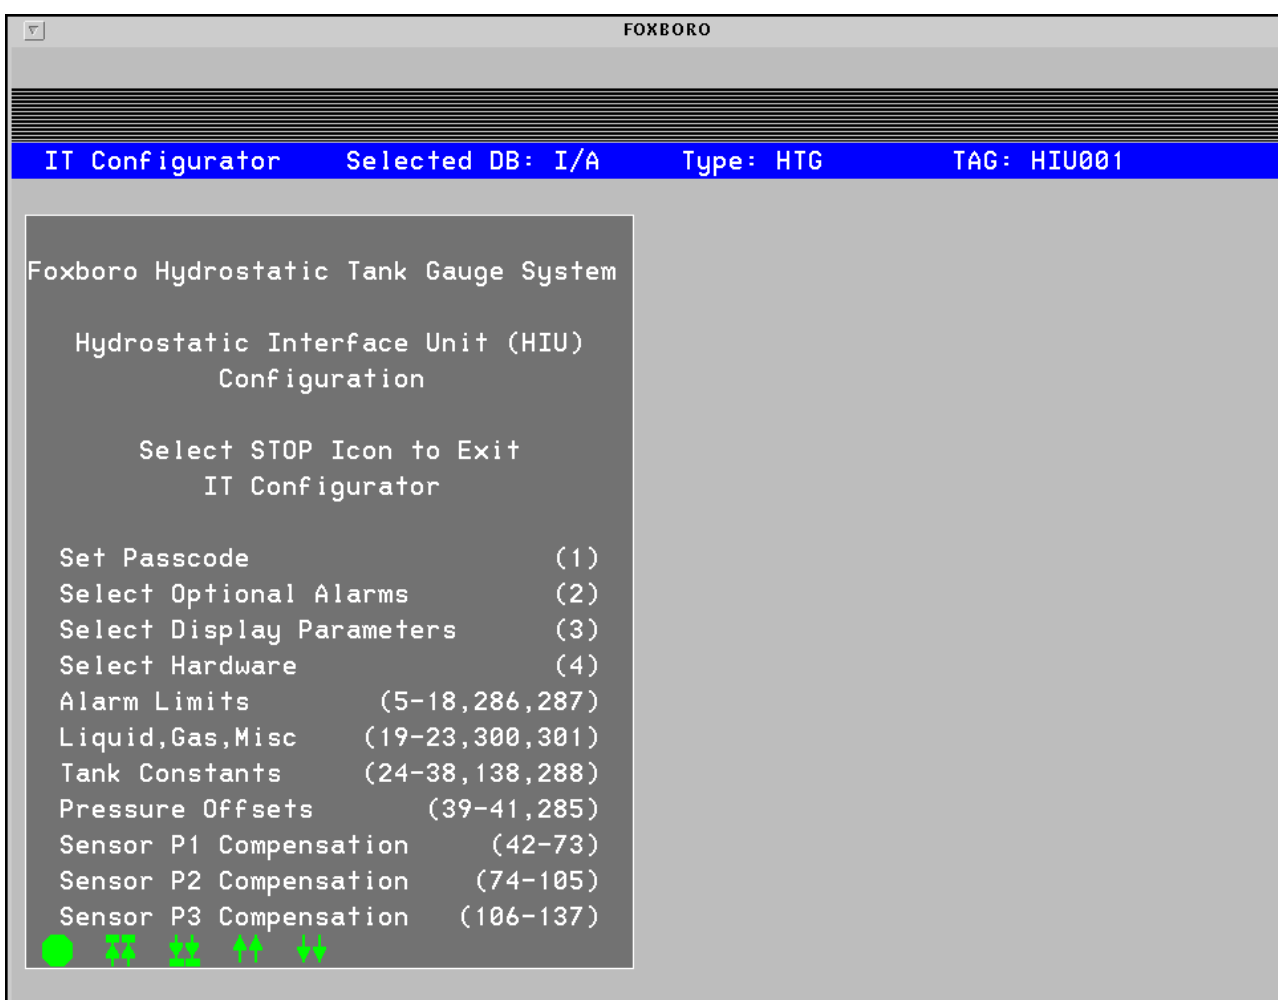

Figure 2. Example of an HTG Configuration Screen
- configure or reconfigure the parameters of a selected HTG. See Figure 2 for an example of a configuration display.